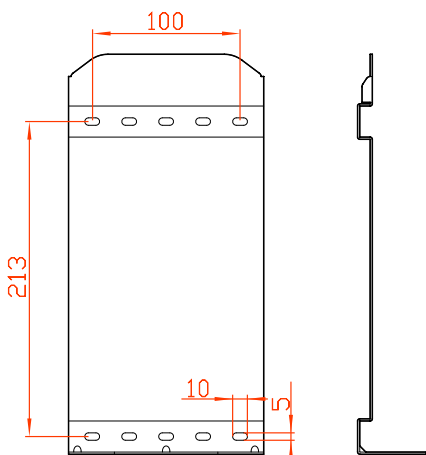
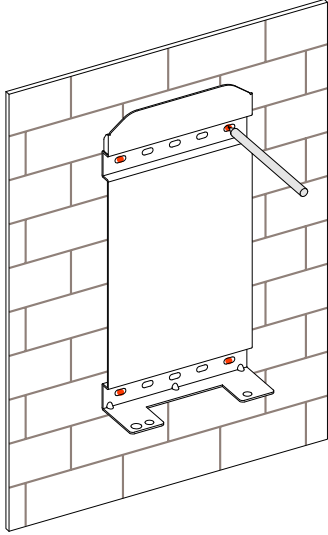

Figure3-7 Optimized installation size (unit: mm)
Figure3-8 Mark the drilling position
- Step 2 Mark the position of installation holes on the wall according to the dimensions of the fixing holes of the installation holder (as shown in Figure3-7), and drill 4 holes of $\Phi 8.5\text{mm}$ on the wall according to marked position, as shown in Figure3-8